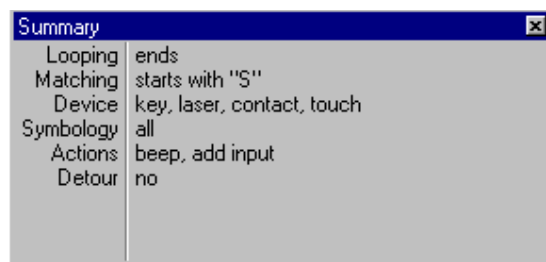

Figure 3-51 Summary Window - “Status” Handler
45. The **Summary** window for the “Status” Handler is shown in Figure 3-51.